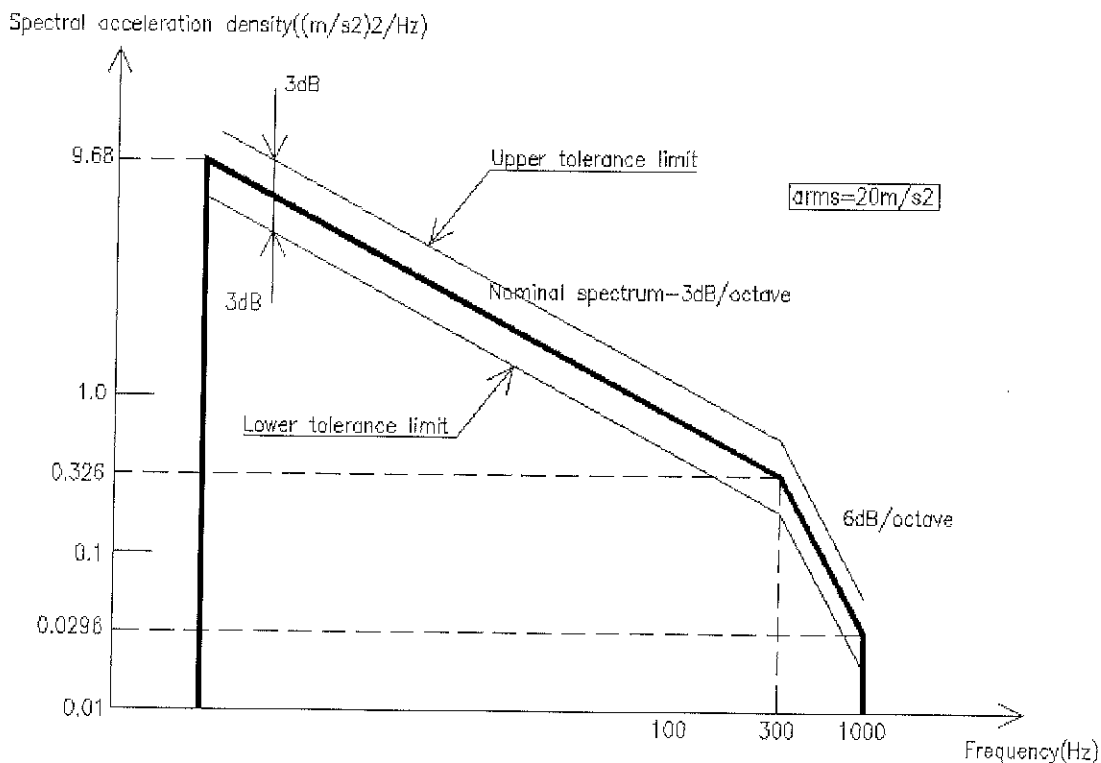

Figure 1.
- Spectral acceleration density : see figure 1.